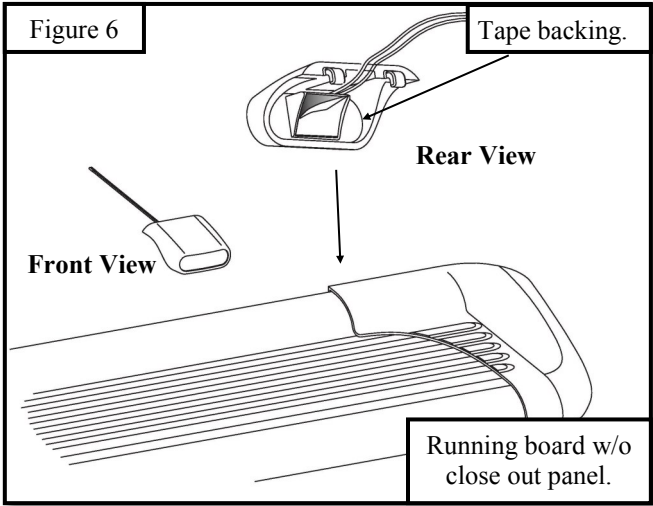

Figure 6
6. Peel tape from underside of light assembly and apply firmly to running board. Caution: Once light is attached it cannot be removed. Tape is permanent, see Figure 6.